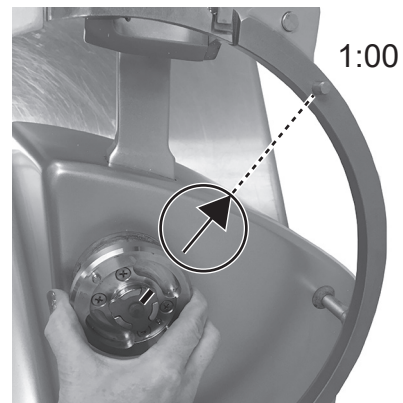

Fig. 17
- Orient the Knife Hub mark to the arrow as shown (Fig. 17), so it points to the Pin on the Ring Guard at the 1 o'clock position (Fig. 17).